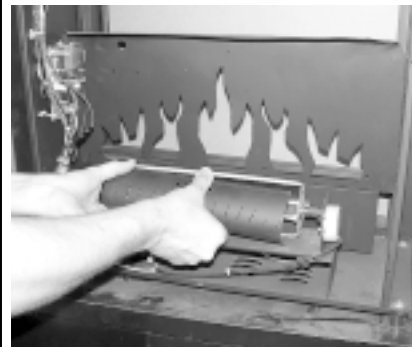

Figure 11
7. Squeeze half of the drum cylinder (see **Figure 11**) until its top edge clears the top drum track. Remove bottom edge of cylinder drum from the bottom drum track. This will give you access to the light bulbs.